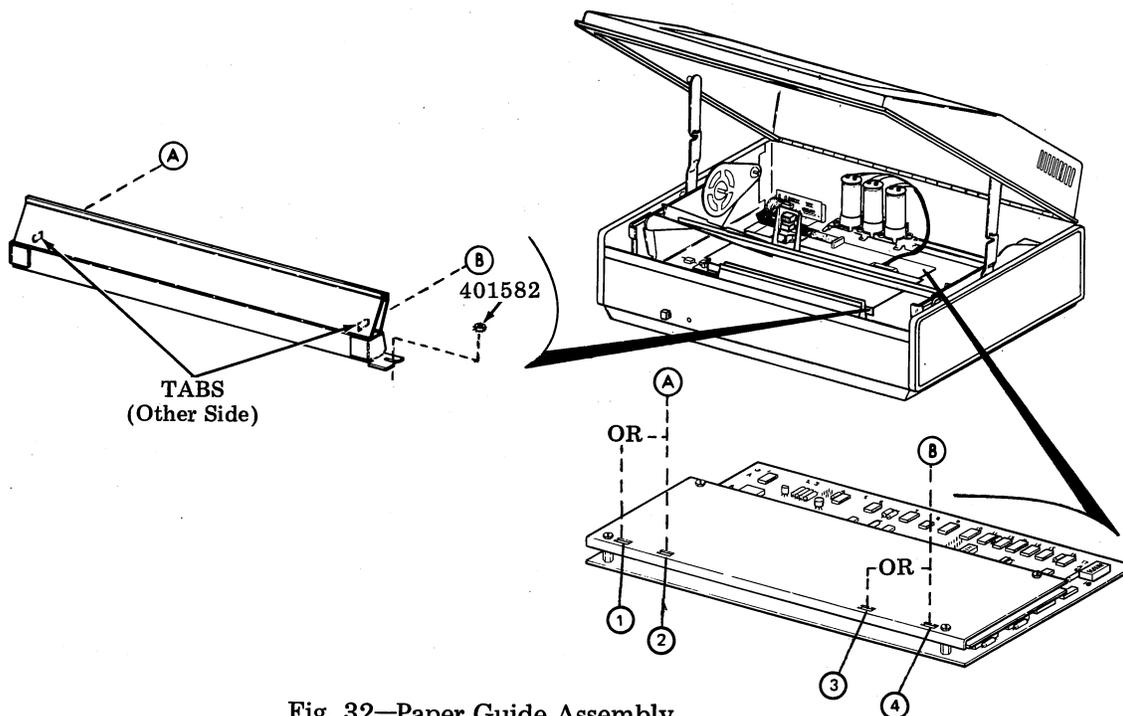

Fig. 32—Paper Guide Assembly
Note: Tabs on the paper guide fit in positions ① and ③ for 80-column printer cabinets and ② and ④ on 132-column printer cabinets (Fig. 32).